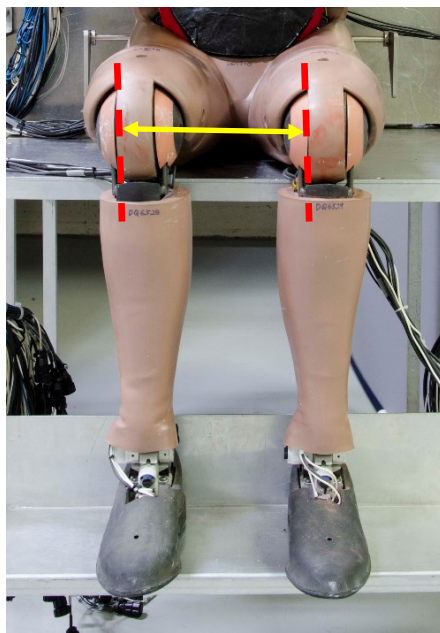

Figure 19-9. Technique to measure knee centerline distance
17. **Sitting Height (A)**: Measure the distance from the seat horizontal surface to a level placed on top of the head.
18. **Hip Pivot Height (B)**: This measurement is a setup parameter. With both left and right H-point tools installed, measure the vertical distance from the seat surface to the H-point.
19. **Hip Pivot Seat Back (C)**: This measurement is a setup parameter. With both left and right H-point tools installed, measure the horizontal distance from the seat back surface to the H-point.
20. **Thigh Clearance (D)**: Measure (perpendicular) from the horizontal seat surface to the top of thigh portion of pelvis flesh. Do not measure this value on top of the thigh portion of upper legs.
21. **Knee Pivot to Bottom of Foot (E)**: Measure vertically from the knee pivot to the horizontal plane of the bottom of the foot (foot plate).
22. **Knee Pivot to Hip Pivot (F)**: Measure the horizontal distance from the knee pivot centerline to the center of the H-point.
23. **Knee Centerline to Knee Centerline (G)**: With upper legs parallel, measure the horizontal distance between the left inner kneecap to the right outer kneecap; this avoids determining the exact centerline of each kneecap (Figure 19-9).
24. **Head Back to Seat Back Line (H)**: Horizontal measurement from the rearmost surface of the skull cap to the seat back.
25. **Rib #3 Depth (I)**: Measure from the center of rib #3 anterior rib attachment bolt to the rib #3 stiffener (flat portion near bolt).
26. **Rib #7 Depth (J)**: Measure from the center of rib #7 anterior rib attachment bolt to the rib #7 stiffener (flat portion near bolt).